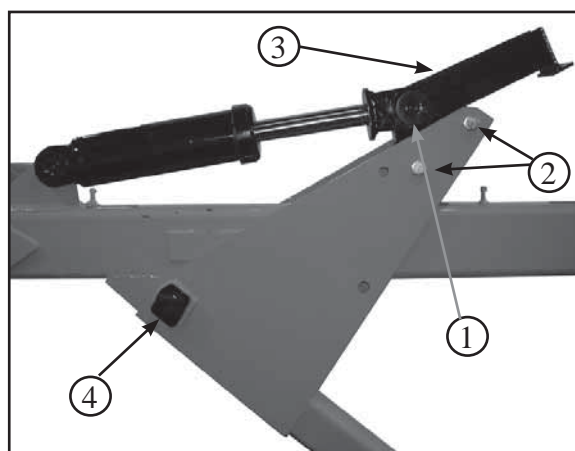
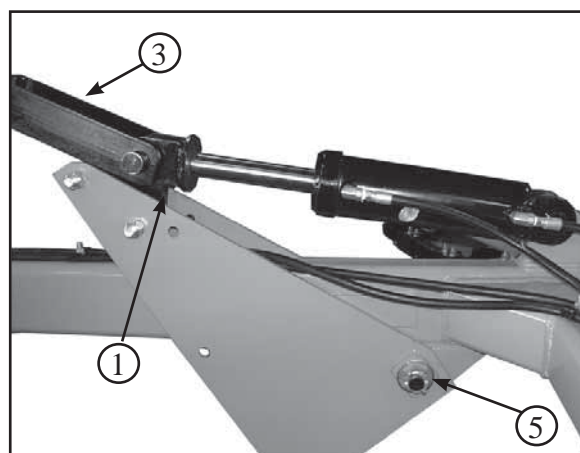

Figure 24 - R.H. Wheel Strut
Figure 25 - L.H. Wheel Strut
3.1.4 TRANSPORT WHEEL STRUTS (Fig. 24 & 25)
1. Remove cylinder block bolts (2), block (1), and pivot pins (4) from both wheel strut assy.
2. Install strut on R.H. side pointing toward the front of disc frame (Fig. 24) and the strut on the L.H. side pointing toward the rear of the disc frame (Fig. 25).
3. Install the pivot pins (4) castellated nuts, and tighten, securing the nuts with the bolts (5).
4. Install the cylinder block (1) between the strut plates with the block pointing towards the cylinder lug welded to the main frame and the hole at the bottom (Fig. 24 & 25) frame. Torque the 1" (25.4 mm) dia. cylinder retaining bolts (2) to 680 ft./lbs. (922 N m).